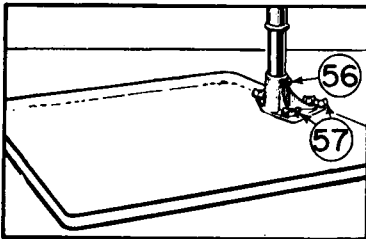

Figure 2
2. Mount the enlarger assembly on the baseboard, by inserting the post (34) in the post base (85) which is bolted to the baseboard. If the post will not enter the hole in the base, loosen the two set screws (56). See Figure 2.
3. Be sure that you push the post all the way down; then tighten the set screws so that the post is held firmly in place. Tighten the four wing nuts (57) that hold the post base to the baseboard. Always be sure that the set screws and the wing nuts are tight, as they keep the enlarger from vibrating.